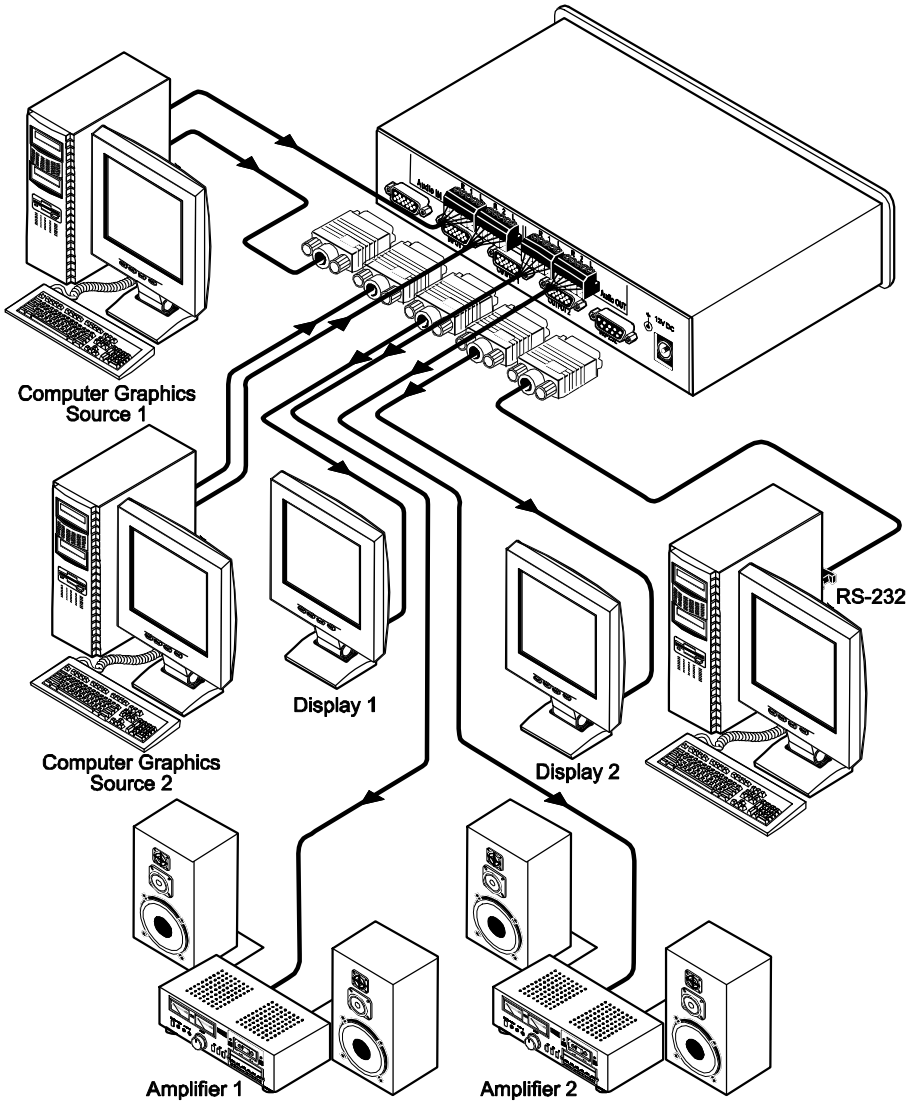

Figure 2: Connecting the VP-2x2 2x2 XGA/Audio Matrix Switcher
To connect1 the **VP-2x2**, as illustrated in the example in Figure 2, do the following2:
6. Connect the 12V DC power adapter to the power socket and connect the adapter to the mains electricity (not shown in Figure 2).